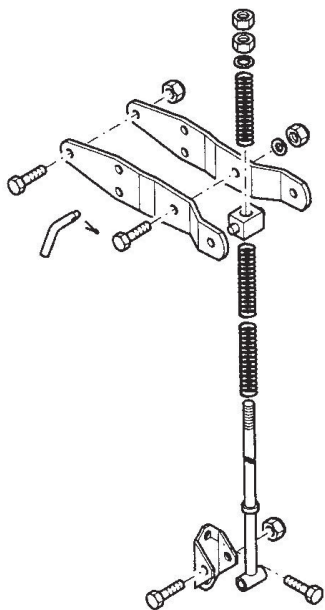

Fig 3.8
- alteration to the adjustment pin height, Fig 3.8.